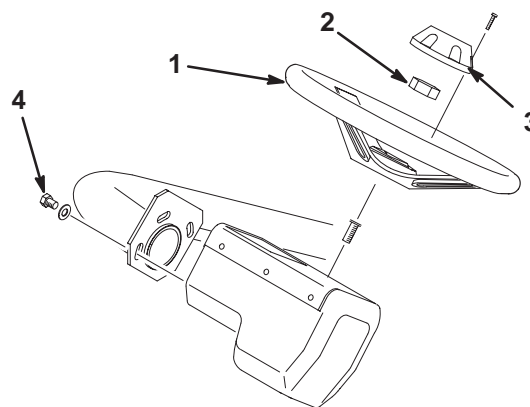

Figure 8
1. Slide the steering wheel onto the steering shaft and secure it with the jam nut (Fig. 8). Torque it to 32 ft.-lb. (43 N·m).
2. Install the cap to the steering wheel with the screw (Fig. 8).
Note: The steering wheel may be adjusted fore and aft for operator comfort by loosening the three mounting screws, pivoting the steering wheel to the desired operating position, and tightening the screws (Fig. 8).